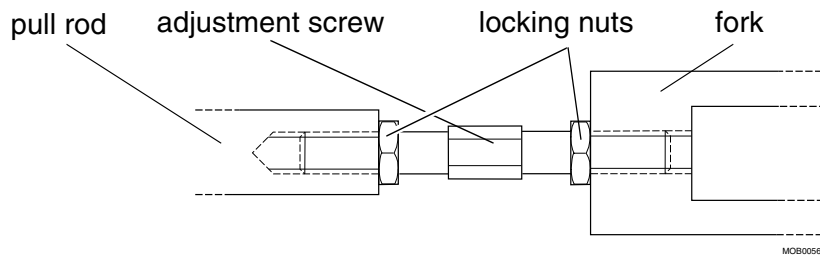

Fig. 47 Adjusting adjustment screw
16. **Tighten** the adjustment screw (Fig. 47). When tightening, the distance between the pull rod and the fork decreases. By tightening, the height of the uppermost position of the arm increases.
17. Tighten the locking nuts on the adjustment screw (Fig. 47).